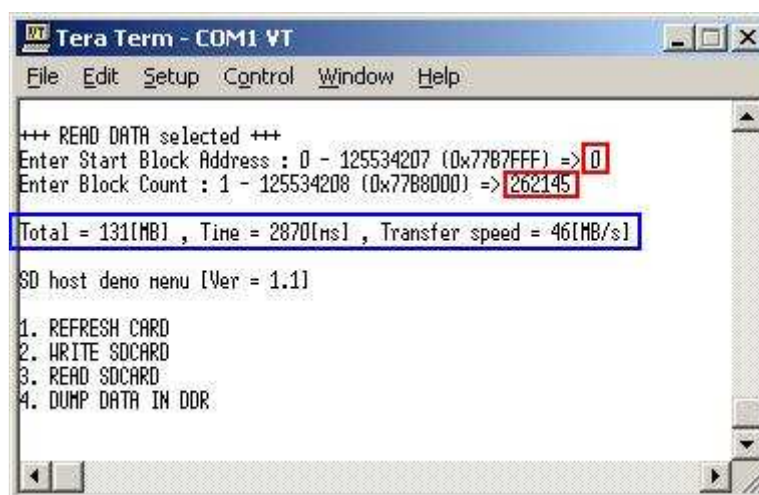

Figure 11 READ Operation without verify
- Block Count: this value is used to be total transfer size in block unit (512 byte) to read SD Card. If this value is more than 262,144 which is read buffer size (128 MB) value, transfer speed will be displayed as output without verify, as shown in Figure 11.